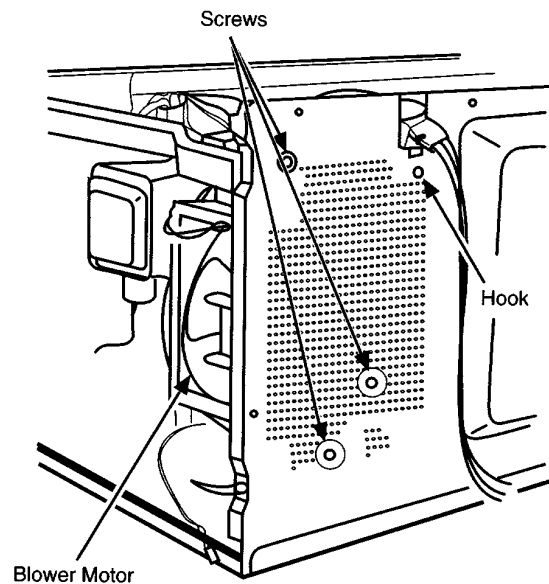

Figure 11
- (1) Remove screw securing the stay.
- (2) Disconnect all lead wires from the blower motor and H.V. capacitor.
- (3) Remove 2 screws securing the blower base and disengage 3 hooks from the rear plate of cavity (Figure 11)
- (4) Remove 1 screw securing the blower motor with the blower base.